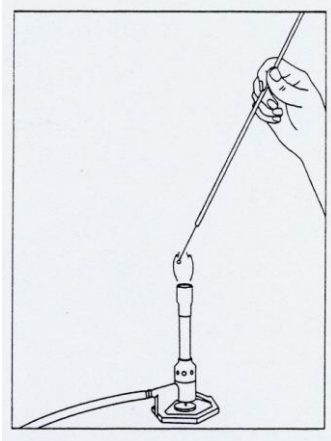

Figure 1
- The needle (or loop) should be heated by flaming immediately before and after making the transfer. Hold the needle downwards and into the flame, to heat both the needle and lower part of the handle. **Check Figure 1.**